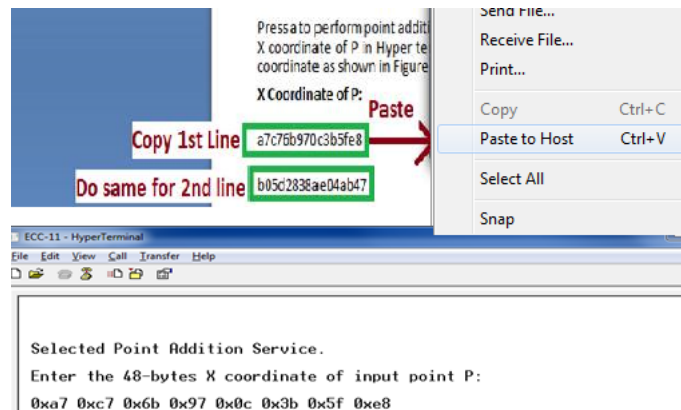

Figure 8 • Pasting Coordinate
- Right-click HyperTerminal and select **Paste to Host** to paste the coordinate each line once as shown in Figure 8. Do not enter after copying each line.